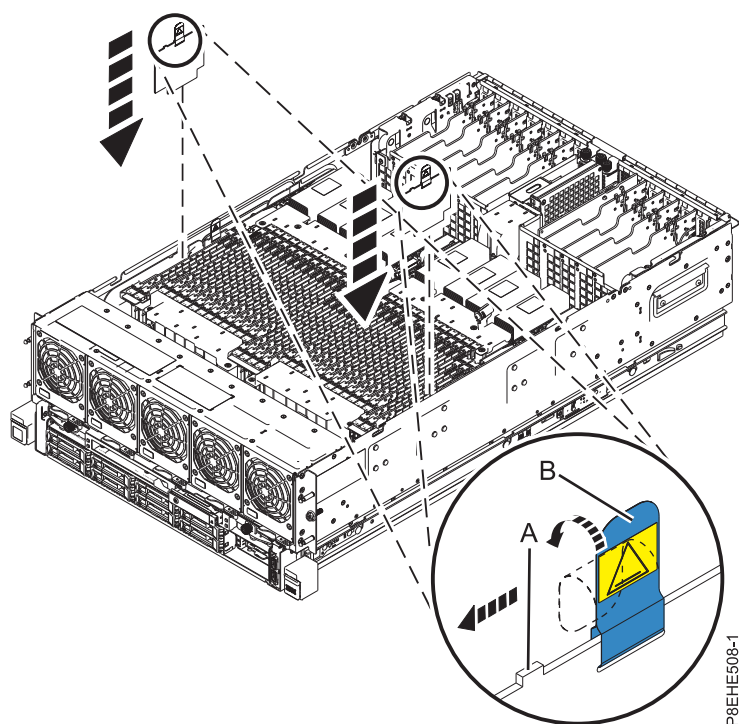

Figure 1. Installing the memory voltage regulator module
- a. Place the memory voltage regulator module into the connector of the system backplane, as shown in Figure 1.